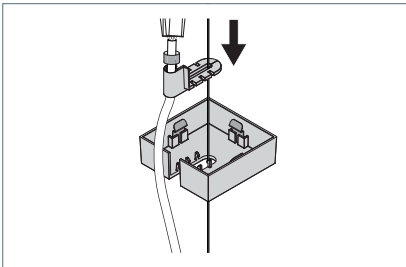

Fig. 18: Inserting the cable duct.
- Insert the cable duct into the ceiling rose, see Fig. 18.